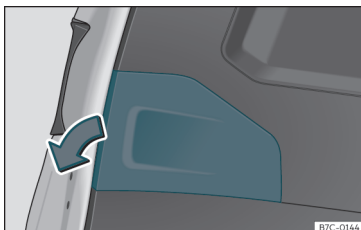

Fig. 51 Rear lid open: remove the cover.
- Remove the rear lid cover in the direction indicated»» **Fig. 51**.